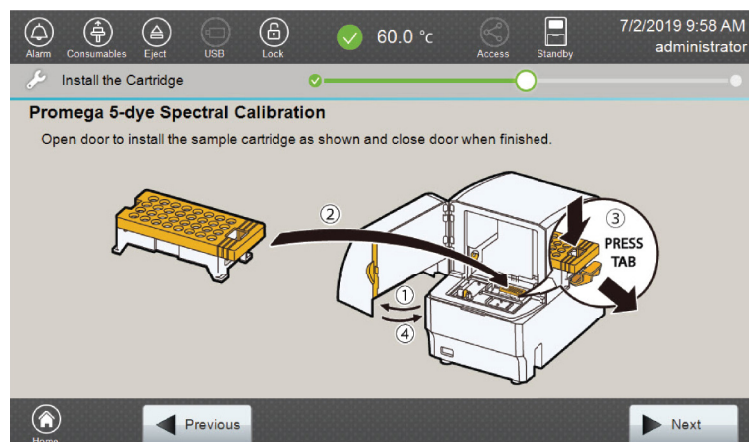

Figure 49. 'Install the Cartridge' screen.
7. Open the instrument door, and place the sample cartridge on the autosampler following the instructions displayed on the 'Install the Cartridge' screen (Figure 49). Press down on the yellow tab on the autosampler deck that locks the sample cartridge in place before placing the sample cartridge into position. Release the tab to lock the sample cartridge in place on the autosampler deck.